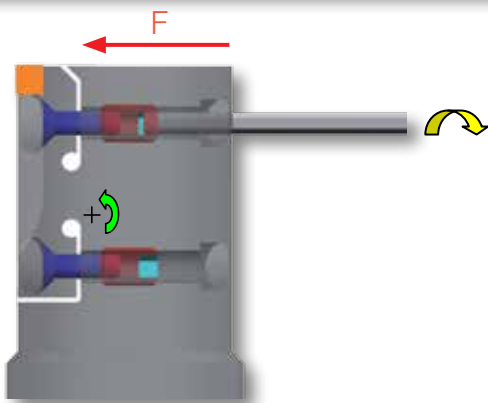

FIG. 1
- first move adjusting screw 1 clock (see fig. 1)